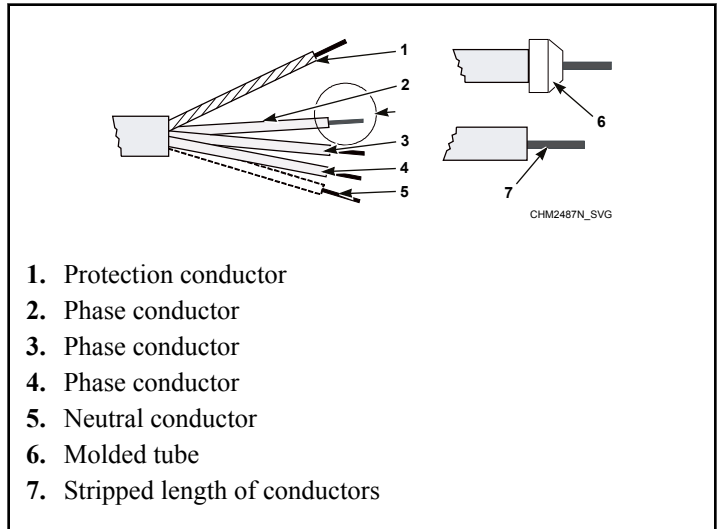

Figure 22
2. Strip the conductor ends. Refer to *Figure 22* . The protection conductor must be longer so it can be routed to the machine without tension.